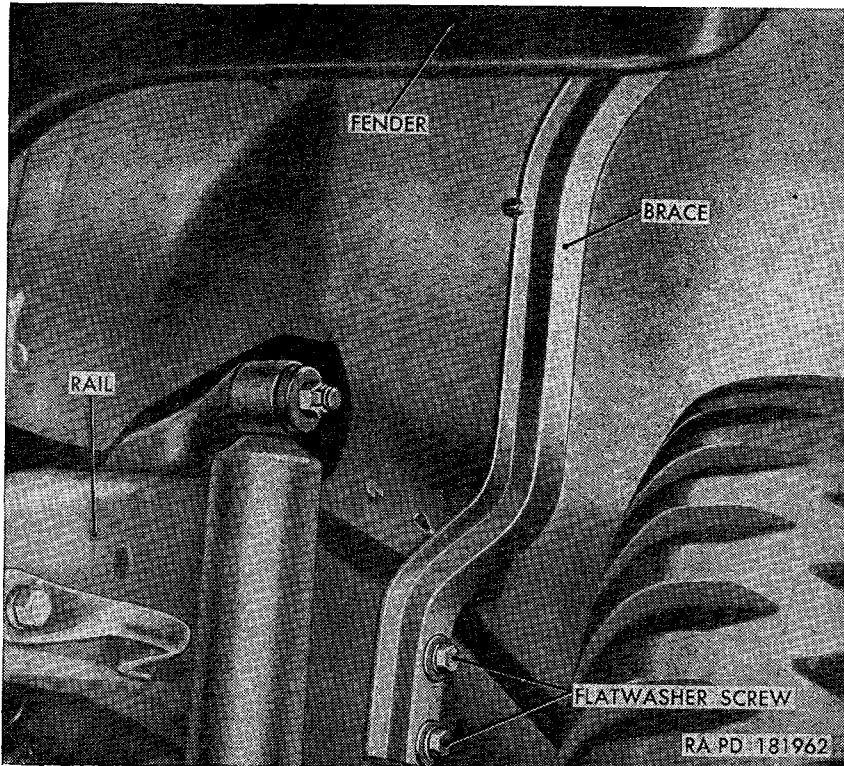

Figure 180. Fender brace of left front fender secured to frame left side rail (M38A1).
- (7) Remove the two lockwasher screws and flat washers securing the fender brace to the frame side rail (fig. 180).
- (8) Pull fender to the left and remove from vehicle.
- (9) Remove the upper and lower front fender-to-cowl side panel antisqueak (webbing) from the body cowl.
- (10) Remove the clips used to secure the electrical cables and fuel lines to the fender.
- (1) Install the clips securing the electrical cables and fuel line on the fender.
- (2) Cement new lower and upper front fender-to-cowl side panel antisqueak (webbing) in place on the body cowl.
- (3) Position fender on the body, alining fender mounting holes with body cowl, radiator guard, and frame mounting holes.
- (4) Secure the fender brace (fig. 180) to the frame side rail with two  $\frac{7}{16}$ -inch ID, 1-inch OD, 0.083-inch thick flat washers and  $\frac{3}{8} \times 1\frac{1}{2}$  lockwasher screws.